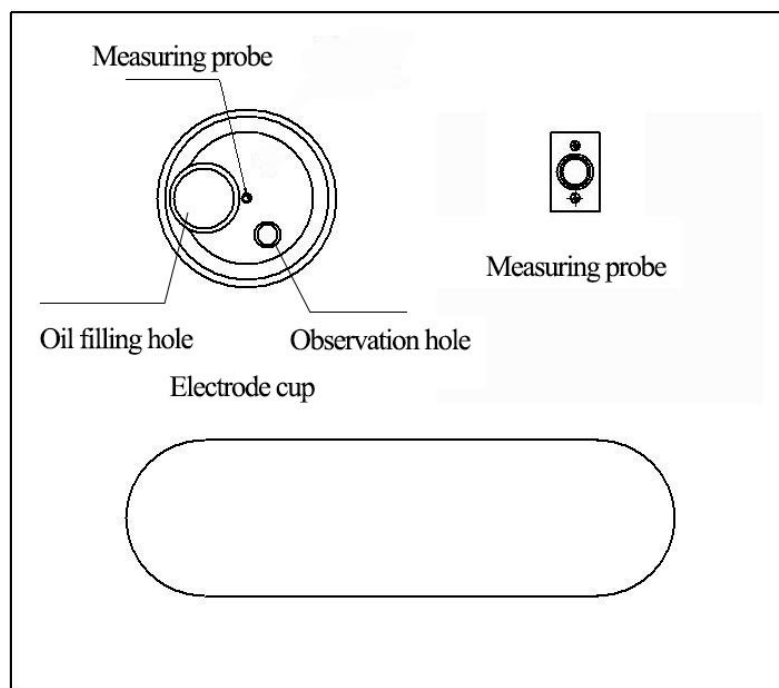

Fig.2 Top panel
1、 Place the cleaned test cell in the groove, and connect the test cable as shown in Fig.2.